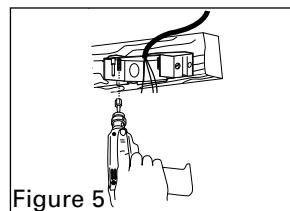

Figure 5
3. Pull wire into box through one of the knockouts and remount the box to the sidemount bracket using the two nylon insert locknuts (Figure 5). **Do not overtighten locknuts.**